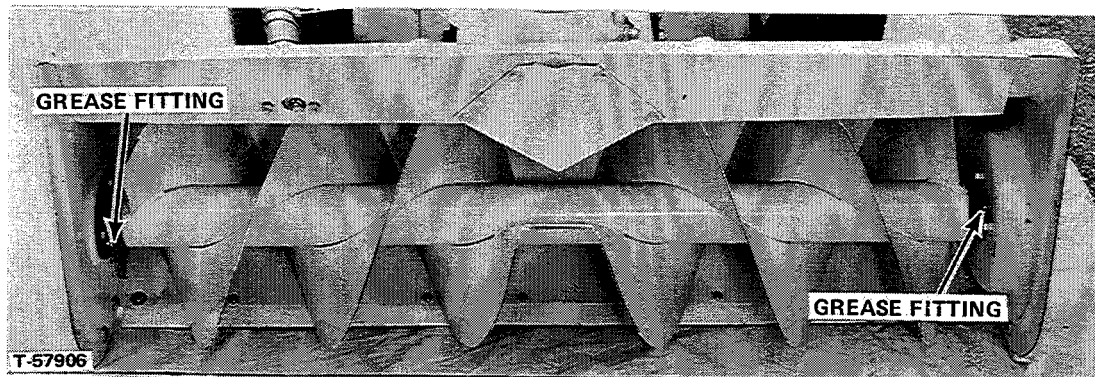

FIGURE 5
3. Lubricate the grease fittings on the right hand and left hand auger bearing (Figure 5).